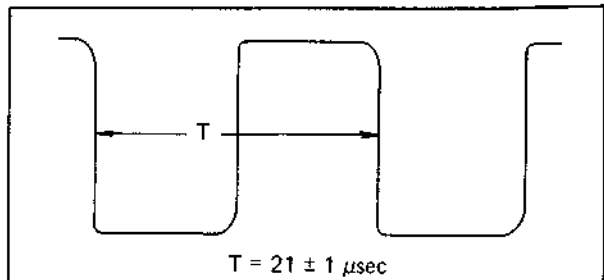

Fig. 5-37 Osc. adjustment
3. Adjust R24 (OSC ADJ) of the VC board to obtain a pulse width of $21 \pm 1 \mu\text{sec}$. See Fig. 5-37. Also confirm an approx. 50% waveform duty.